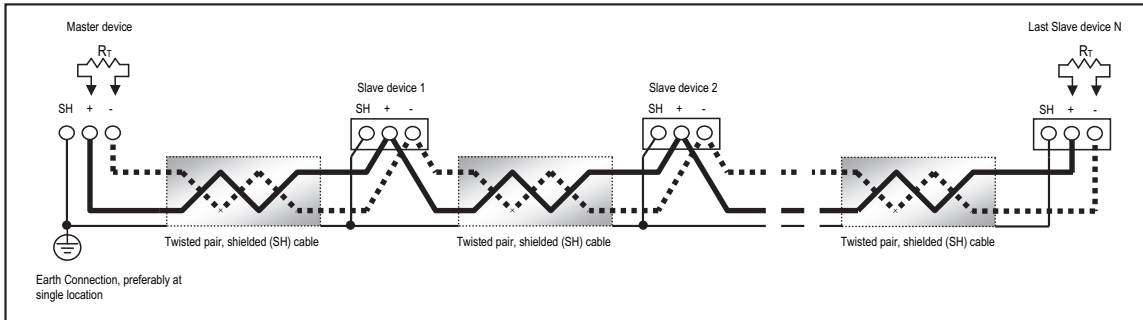

Figure 5.4: RS485 Daisy Chain Connection
- Connect shield to RS485 Master and individual devices as shown in Figure 5.4. You may also connect the shield to earth-ground at one point.
- Termination Resistors (RT) may be needed on both ends for longer length transmission lines. However, since the meter has some level of termination internally, Termination Resistors may not be needed. When they are used, the value of the Termination Resistors is determined by the electrical parameters of the cable.
Figure 5.4 shows a representation of an RS485 Daisy Chain connection. Refer to Section 5.1.2.1 for details on RS485 connection for the Unicom 2500.